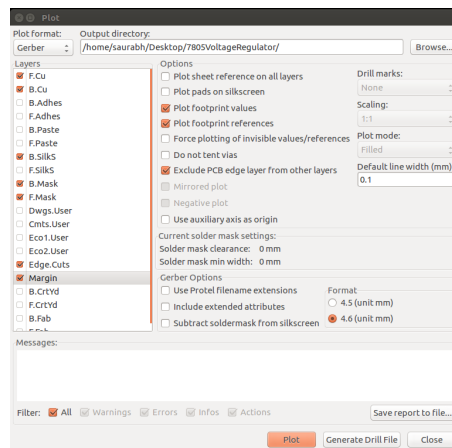

Figure 13.22: Plot Window before generating gerber files
3. Select F.Cu, B.Cu, B.Silks, F.Mask, B.Mask, Margin and Edge.Cuts from the Layers on the left side of the Plot window as shown in Fig. 13.22.